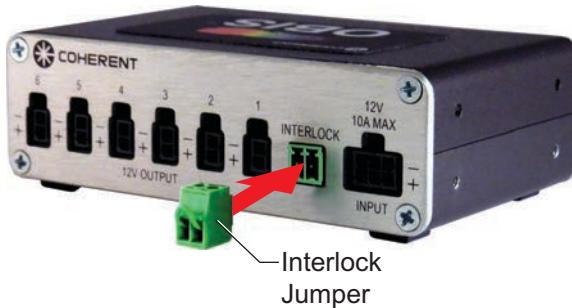

Figure 10-13. OBIS 6-Laser Remote Connecting the Interlock Jumper
5. Connect the Interlock jumper to the OBIS 6-Laser Remote, as shown in Figure 10-13. For interlock details and specifications, refer to “Interlock Control” (p. 10-8).